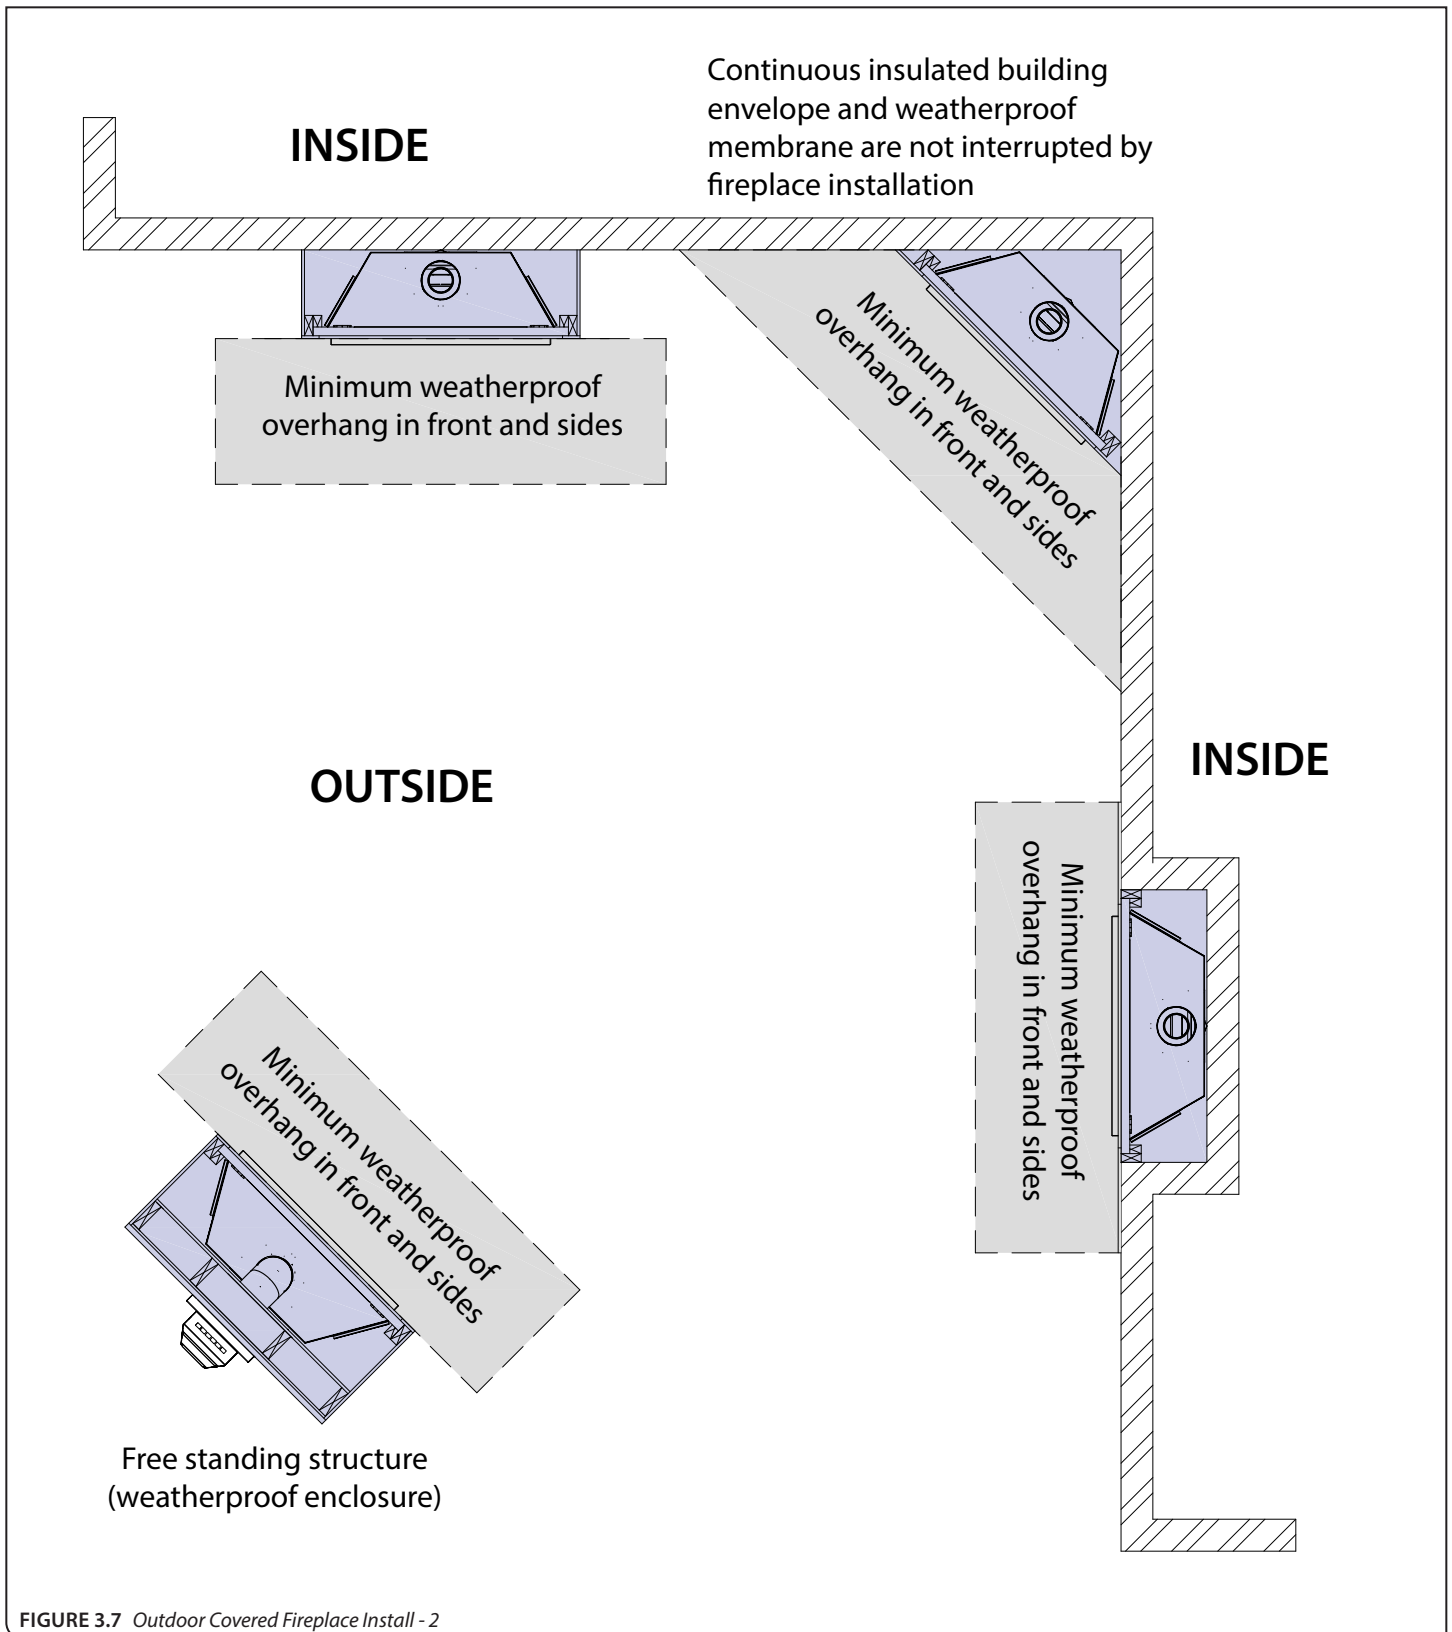

FIGURE 3.7 Outdoor Covered Fireplace Install - 2
- The continuous insulated building envelope and weatherproof membrane are not to be interrupted by fireplace installation. See **FIGURE 3.7** on the following page.